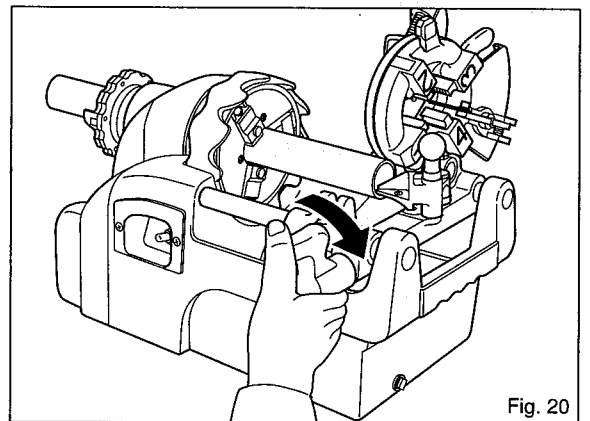

Fig. 20
- (3) Set the switch to the ON position to start the pipe rotating, then use the feed handle to place the reamer against the pipe. When the pipe has made at least one complete revolution, remove the reamer from the pipe. This completes the chamfering process. (Fig. 20)